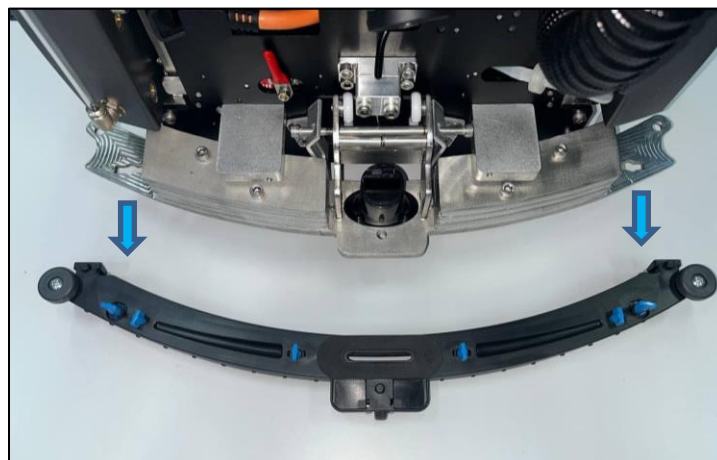

Fig. 3
2. Detach the Squeegee cartridge from the mount by pushing both fasteners out of their hole (Fig. 3).